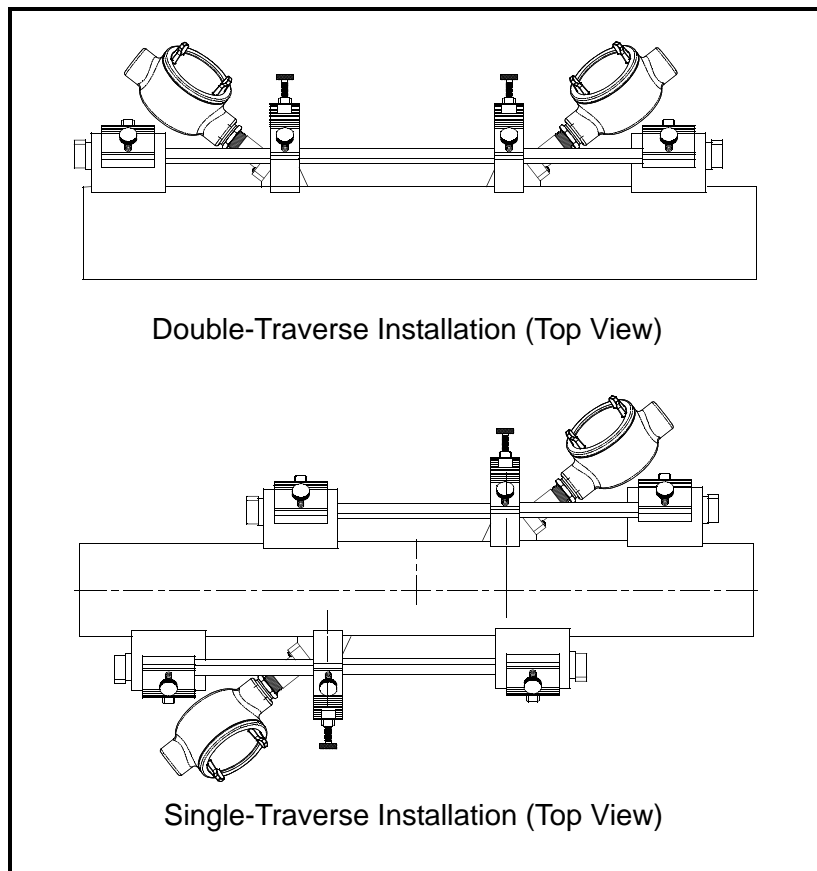

Figure 12: Completed MCF Installations with Transducers
7. Repeat Steps 1 to 6 to mount the other transducer in the remaining block. See Figure 12 for completed installations.
Note: If you have mounted the transducers into the MCF properly, the two transducer cable connectors will face away from each other as shown in Figure 12.